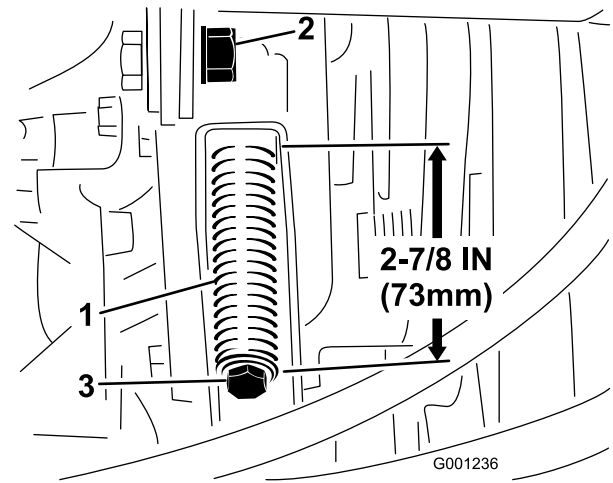

Figure 65
4. Use a 1/2-inch wrench to tighten or loosen the belt-tensioning spring (Figure 65). Adjust spring to a length of 273 mm (7/8 inches).
3. Loosen the tensioning-rod jam nut (Figure 65).
4. Using a 1/2-inch wrench, loosen the belt-tensioning spring (Figure 65) all the way.
6. Install the new PTO belt and tension the pulley spring to 73 mm (2-7/8 inches) (Figure 65).
7. Tighten the jam nut (Figure 65) and close the hood.